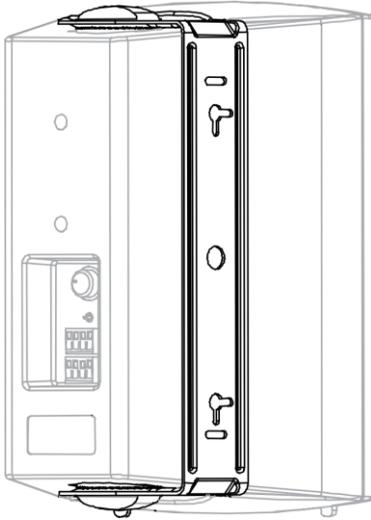

Figure 4: Yarden 6-OD with Bracket Connected
4. Align the bracket screw holes (upper and lower) to those on the speaker and screw a knob to each of the holes to secure the speaker to the bracket (see Figure 4).